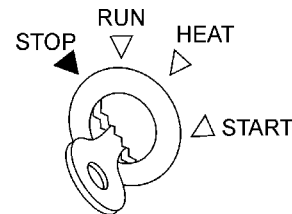

Figure 32. Starter Switch (Stop Position)
- Place the starter switch key (Figure 32) in the **STOP** position and remove the key. Place fuel cock lever in the **OFF** position.